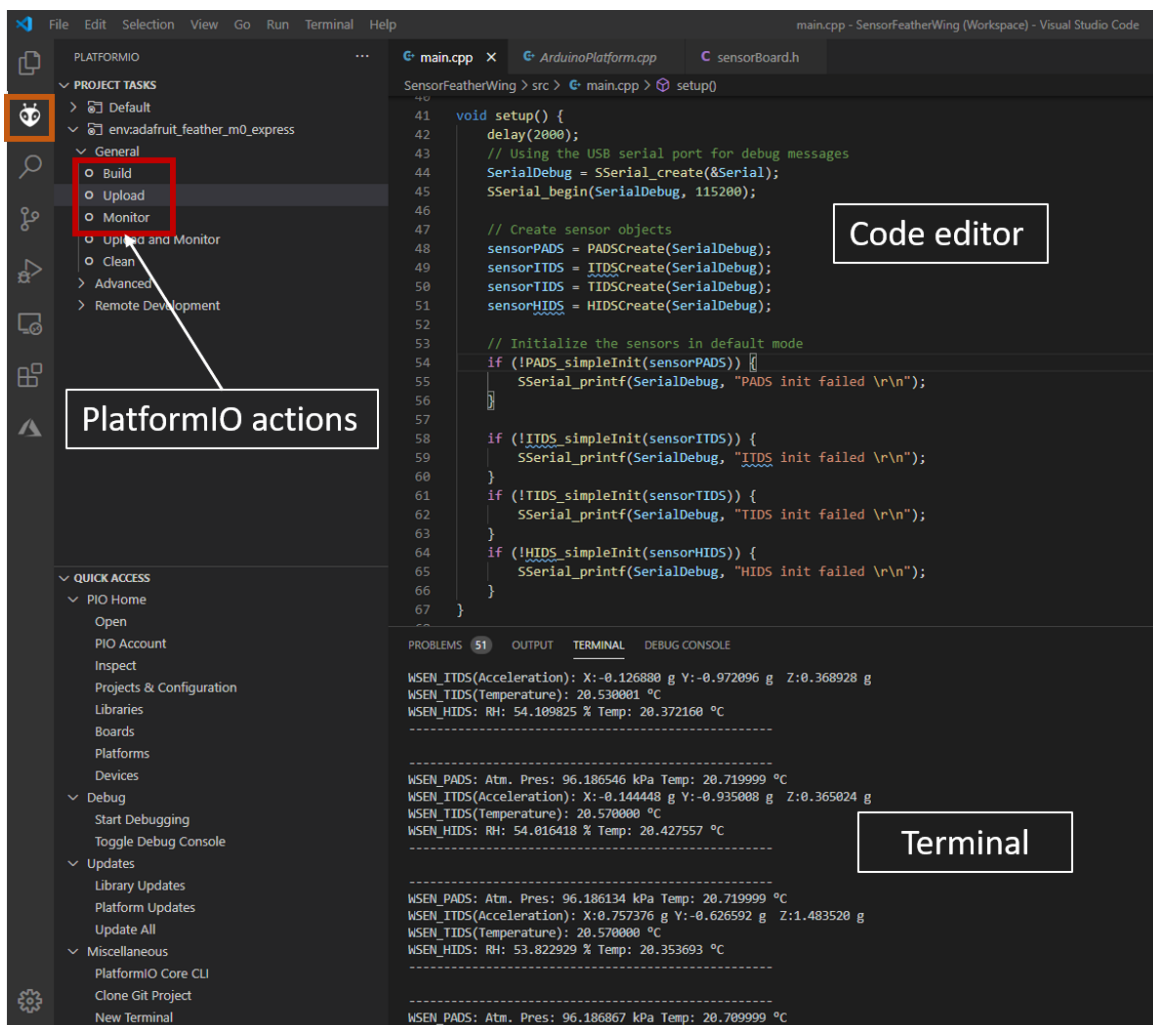

Figure 9: VS code
7. Build and upload the code from the PlatformIO tab as shown in the figure 9.